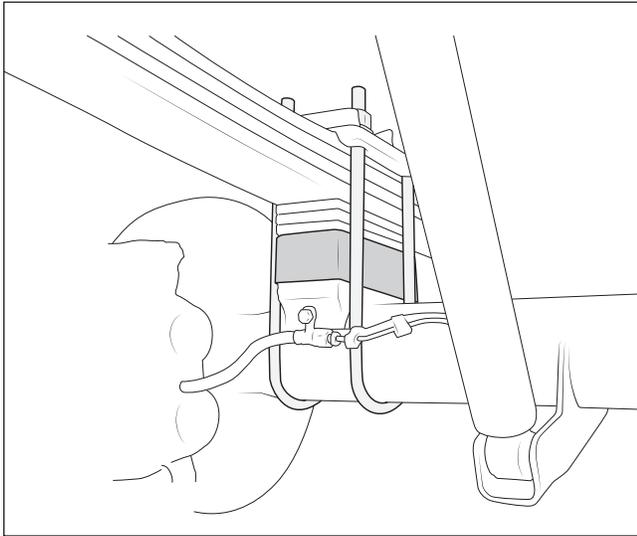

Figure 51
6. Lower the axle enough to insert the lift block (fig. 51).
7. Install the new U-bolts and snug (fig. 51).